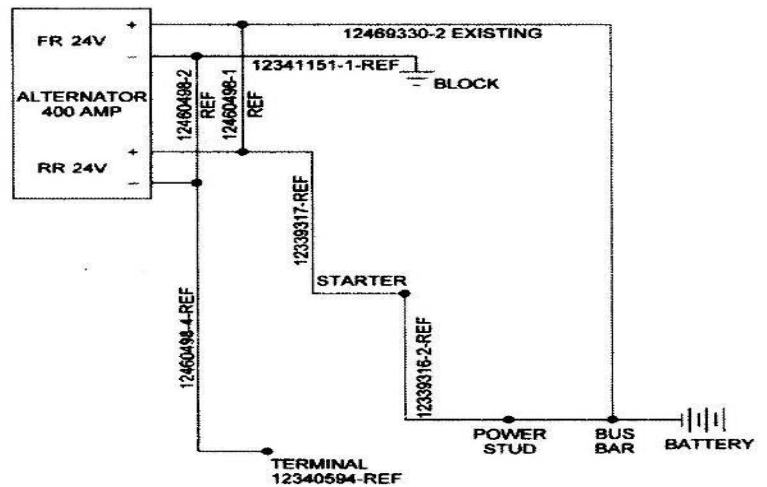

Figure 67
(3) Ensure negative terminal posts are correctly located. Cables must reach their respective terminals without stretching, refer to **Figure 67**.